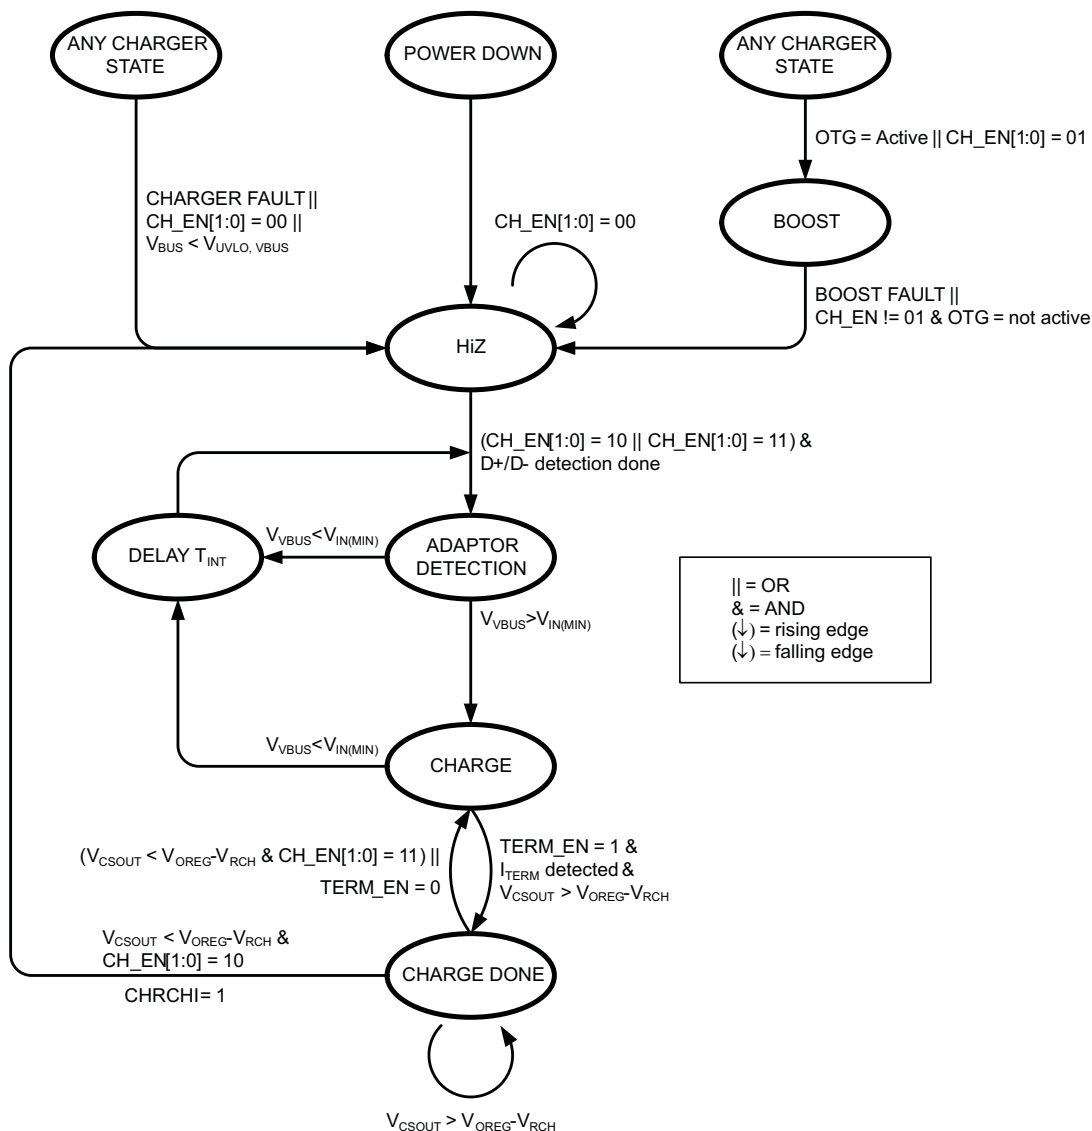
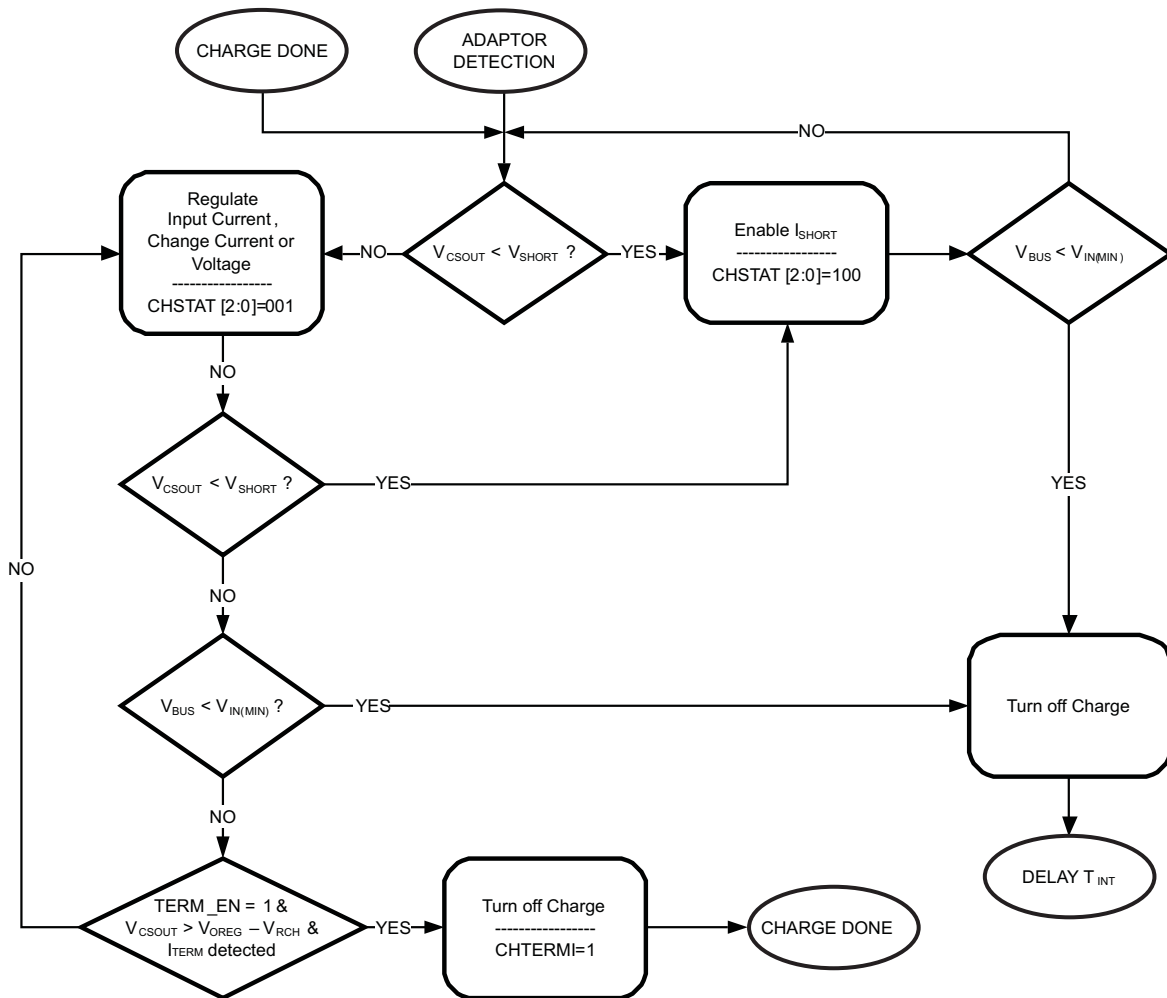

Figure 40. State Diagram of USB Charger Circuit
Figure 41. Detailed Charging Flow Chart
The global state diagram of the charger is shown in Figure 40 and the detailed charging algorithm in Figure 41. HiZ mode is the default state of the charger where Q1, charger PWM and boost operation is turned off. If any fault occurs during charging, the CH\_EN[1:0] bits in the CONTROL register are reset to 00b (OFF), fault bits are set in the INT2 register, an interrupt is issued on the INT pin, and HiZ mode is entered. Charging is re-initiated by either host control or automatically if VBUS is power cycled.
- The device is in CHARGE DONE state (see Figure 40) and the `TERM_EN` bit is set from 1 to 0.